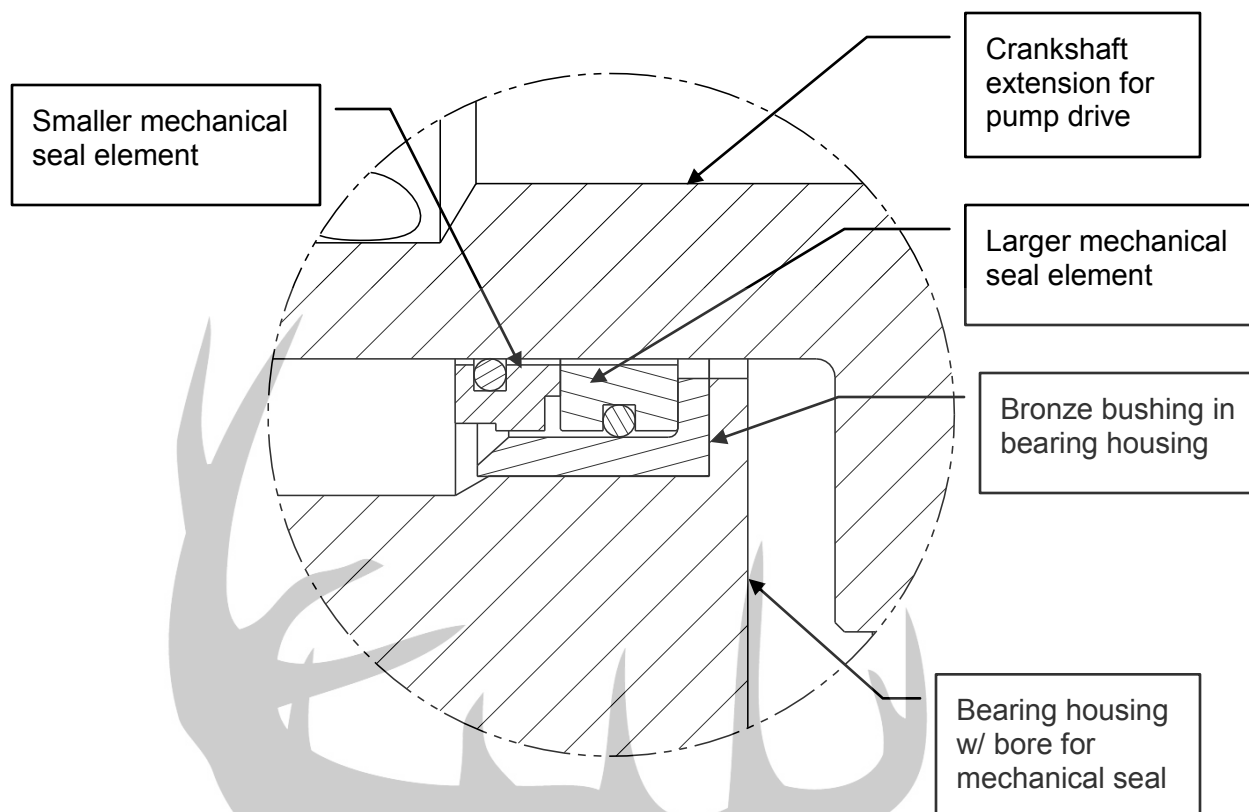

Figure 24: Direct Crankshaft Driven Pump Seal
23. Inspect the gaskets (9) that seal the bearing housing and replace if damaged. Reinstall the shims (10) and bearing housings (8). As a starting point, install the same number of shims that the pump originally had prior to service work. When tightening the fasteners retaining the bearing cover, use crisscross pattern for tightening with a torque wrench.
24. Reinstall or replace the rod bearings (16) in the connecting rod and connecting rod caps per instructions in section 10.4.2. Insure that rod caps are properly assembled with their mating connecting rod. Use back and forth pattern tightening with a torque wrench.
26. Turn the crankshaft (2) more than two revolutions to insure the connecting rods (3) are loose and that there is no binding in the rod bearings (16); the wrist pin (5) joints are free; and the crossheads move freely in the power frame.
31. Install the oil seal (27) into the bearing housing. The oil seal can be installed with light hammer blows. When properly seated it will be flush with the face of the bearing housing.
32. NOTE: Pumps fitted with direct crankshaft driven oil pumps have a seal on the crankshaft extension inside the bearing housing that is not visible. Refer to Figure 24 for a detail of this configuration. This is a mechanical seal that has components made of very hard and brittle materials and can be easily damaged if dropped or struck by other objects. It is better to install this mechanical seal after the crankshaft is in place. This is performed by pushing the larger element, with the external o-ring, into the bronze bushing in the bearing housing. The polished face must be away from the flange of the bronze bushing. Install the smaller element, with the internal o-ring, onto the crankshaft extension with the polished carbon face against the polished face of the larger element. The magnetic attraction and the oil pressure hold the seal components in place.